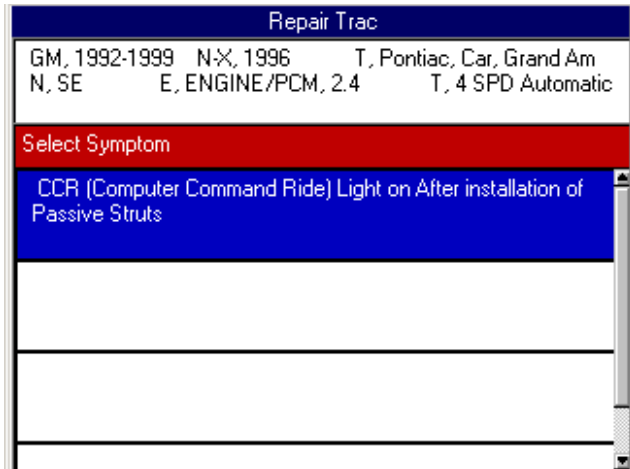

Figure 7.2: Repair Trac Symptoms Screen
- 2 From the Pathfinder screen, select **Repair Trac** and press the **ENTER** key. This displays the Repair Trac screen for the vehicle (see Figure 7.2 on page 48).
- From the Pathfinder screen, select **Fast Fixes** and press the **ENTER** key. This displays the Fast Fix Select Category screen for the vehicle (see Figure 7.2 on page 48).